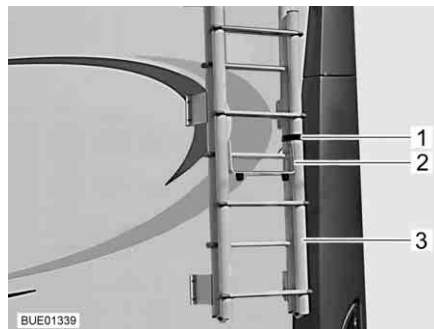

Fig. 2 Foldable ladder, ladder folded upwards
- Open the strap (Fig. 2,1) on the ladder (Fig. 2,3) at the rear of the vehicle.
- Fold out the guard rail (Fig. 2,2).